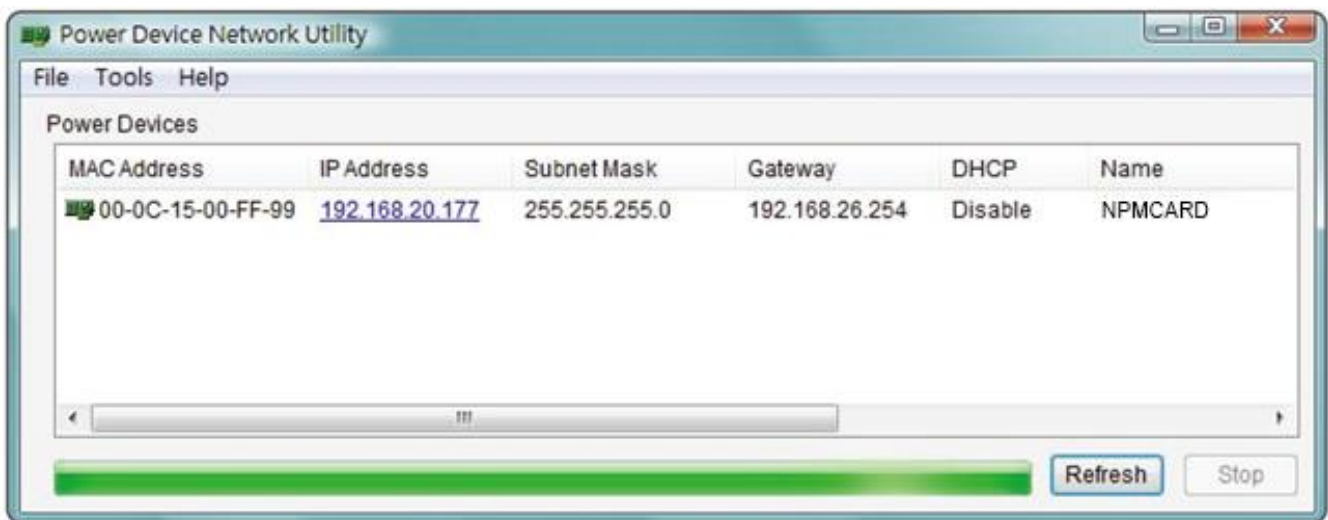

Figure 1. The main window of the “Power Device Network Utility” program.
3. The main window of the Power Device Network Utility program is shown in Figure 1. The configuration tool will display all Smart Power Systems Network Power Management Card devices present on the local network subnet. The "Refresh" button is used to search the local network subnet again.